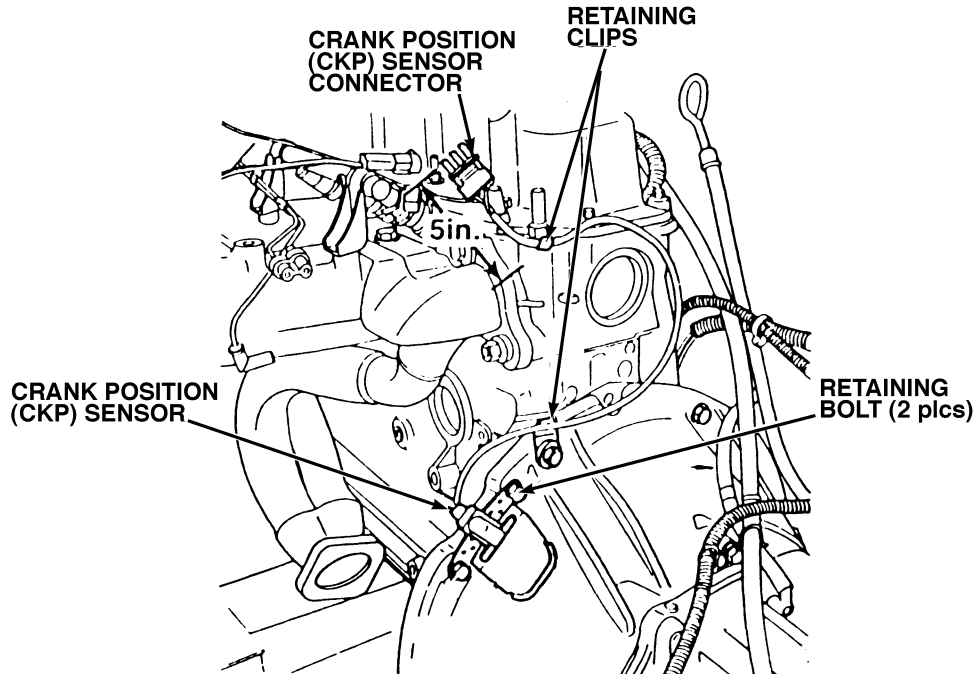

Figure 2.
5. Remove the CKP sensor lead from the retaining clip mounted at the left rear corner of the cylinder head (Figure 2).